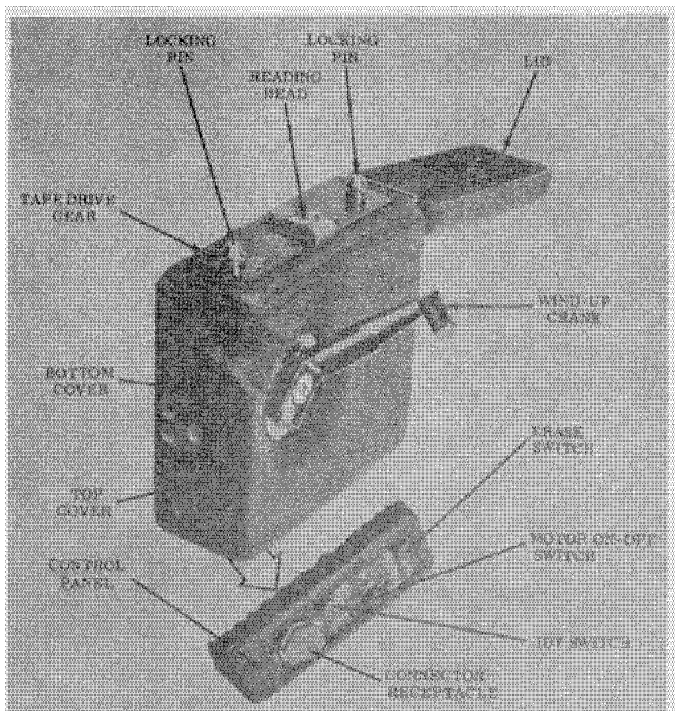

Figure 1-4. KE-8B Keyer
1.2.3 *KE8B Keyer (KY-468/GRA-71)*. The purpose of the KE-8B Keyer (fig. 1-4) is to convert tape-recorded, Morse-encoded characters into equivalent electrical impulses for "keying" an associated transmitter. Also associated with the KE-8B is the CA-3B Cartridge. The CA-B Cartridge, containing magnetic impulses recorded in it by either the CO/B-8 or CO-3B Coder, locks onto the KE-8B Keyer- to enable tape reading for subsequent keying of 'the associated transmitter by way of the KA-3 Keyer Adapter component.